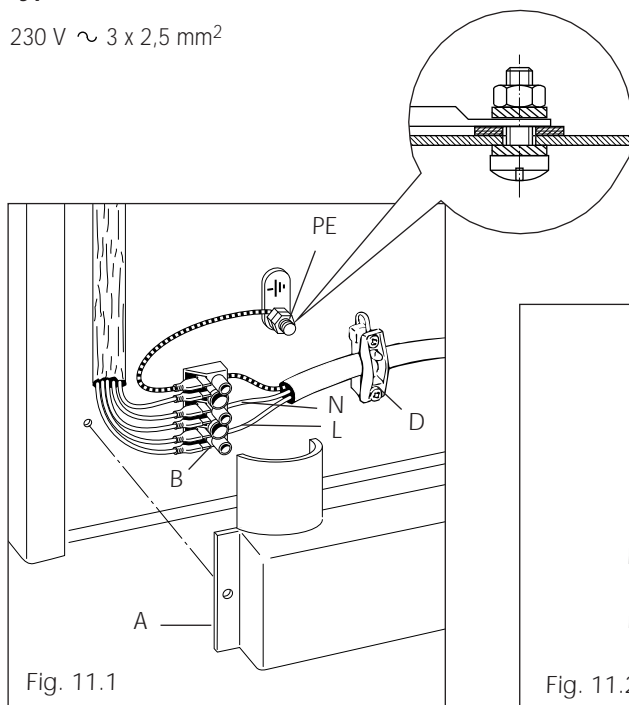
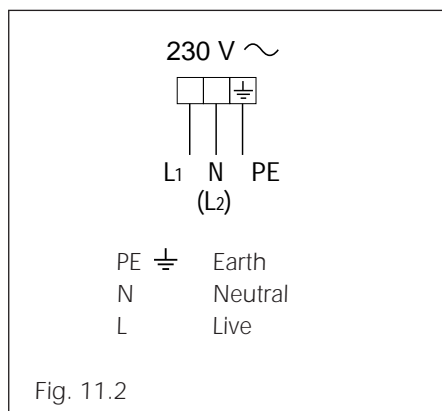

Fig. 11.1
Fig. 11.2
- Remove the screws securing the cover "A" on the rear of the cooker (fig. 11.1).
- Feed the supply cable through the cable clamp "D". The supply cable must be of a suitable size for the current requirements of the appliance; see the section "Feeder cable section" (fig. 11.1).
- Connect the wires to the terminal block "B" as shown in the diagram in figure 11.2; or connect the phase wires to the terminal block "B" and the earth wire to the terminal PE as shown in figure 11.1.